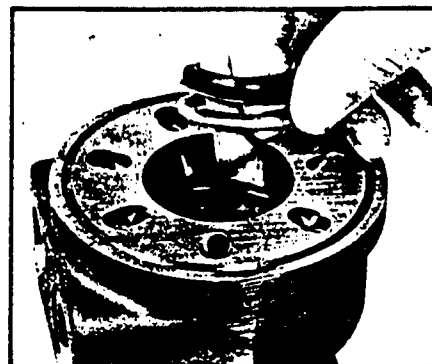

Figure 34
5. Place housing (15), wearplate surface up, on a clean work surface. Apply a small amount of clean grease to inner seal (16). Install back-up washer (17) then seal (16) into housing coupling shaft bore from the wearplate end of the housing (15). Seat the back-up washer against the retaining ring (18) and the seal against the back-up washer, with the seal lip facing away from the back-up washer. SEE FIGURE 34.